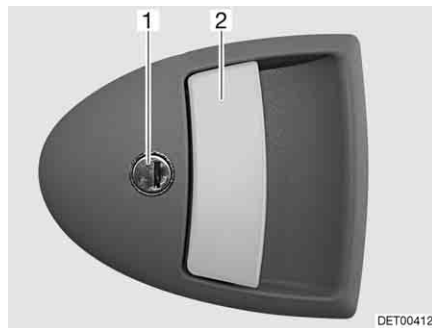

Fig. 44 Door lock of conversion door, outside
- Insert the key into locking cylinder (Fig. 44,1) and turn until the door lock is unlatched.
- Pull on the door handle (Fig. 44,2). The door is open.
- Insert the key into locking cylinder (Fig. 44,1) and turn until the door lock is engaged.